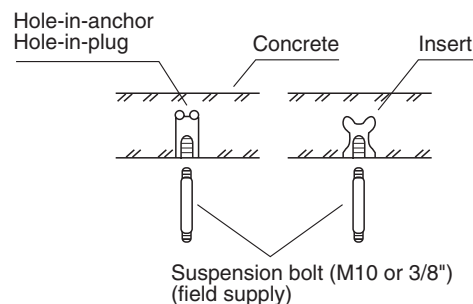

Fig. 1-51
- (2) Drill holes at the 4 points indicated on the full-scale diagram.
- (3) Depending on the ceiling type:
- (a) Insert suspension bolts as shown in Fig. 1-51.